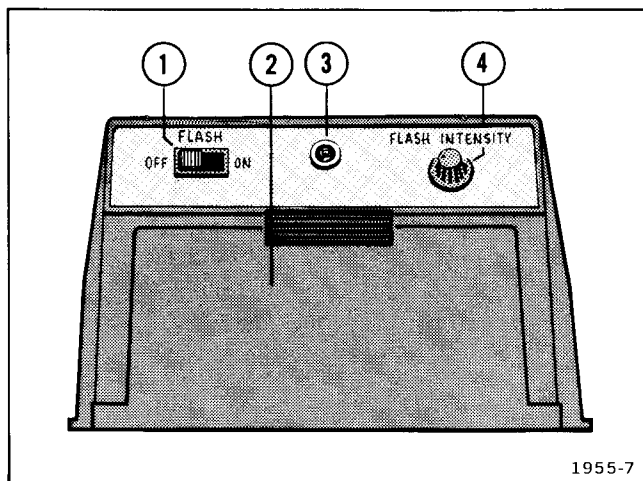

Fig. 2-2. Flash unit control and indicator locations.
## Graticule Flash Unit (Fig. 2-2)
2. Set the FLASH INTENSITY control (Fig. 2-2) to mid-range (may require further adjustment for the best graticule contrast on photographs).
4. Open the crt viewing door (Fig. 2-2) and obtain the desired display on the instrument. If the instrument has graticule illumination, turn it off. Close the crt viewing door.
5. When the Ready Indicator LED (Fig. 2-2) begins blinking, take the picture, then advance and develop the film.